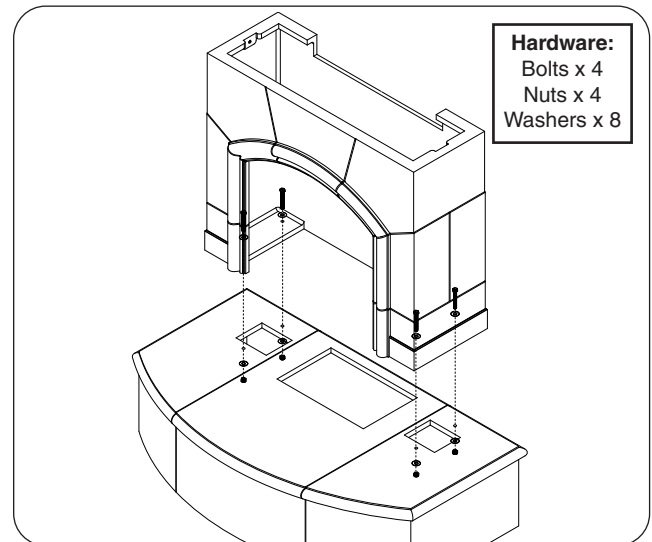

Fig. 24-1 Assemble body
1. Place the body piece on top of the hearth. Carefully align the pilot holes, and insert the hardware in the order shown in Fig. 24-1. Hand tighten, then use two $\frac{3}{4}$ " open end wrenches (or equivalent) to fasten.